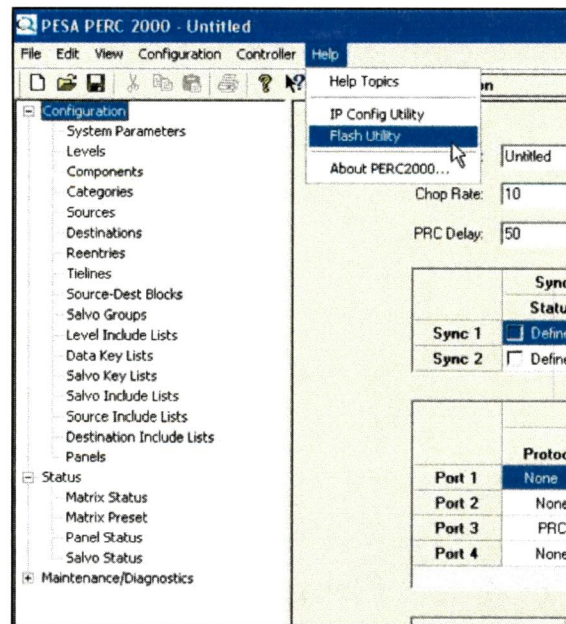

Figure 22. Flash Utility Command Location
- ☐ 3. Click on the Help menu in the Windows™ menu bar and select the “Flash Utility” option from the menu as shown in Figure 22.